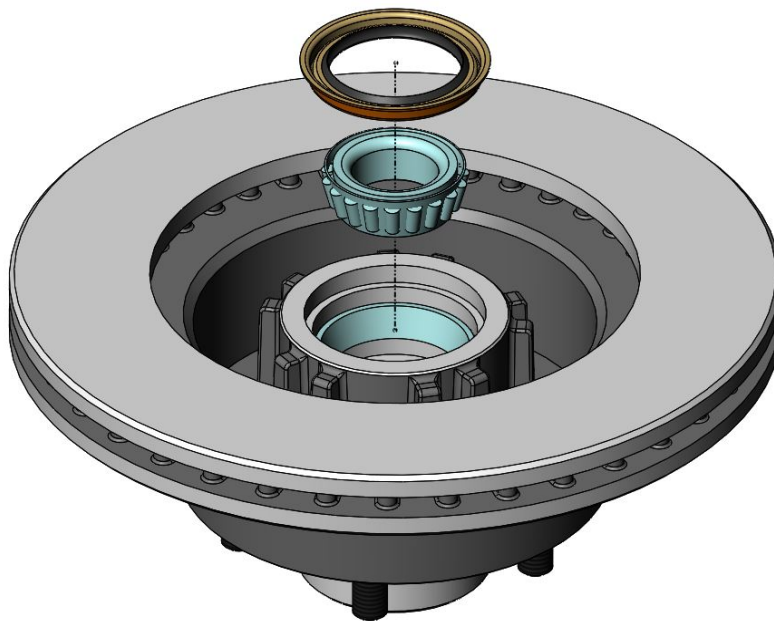

Figure 4 – Inner Wheel Bearing Installed
7. The wheel bearings can now be packed with a high quality wheel bearing grease available at your local parts store and the bearings can be installed in the rotors at this time. Once the inner bearing is installed, tap the inner seal in at this point. Figure 4 shows the bearing and seal being installed.